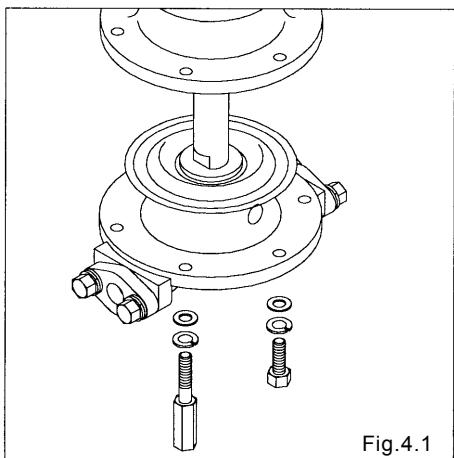

Fig.4.1
- Remove 6 out chamber mounting bolts and studs respectively, and remove the out chamber. (AD-10, AD-25) [Fig.4.1]
- Remove the 8 out chamber locking bolts, studs and nuts respectively, and remove the out chamber. (AD-40, AD-50) [Fig.4.1]